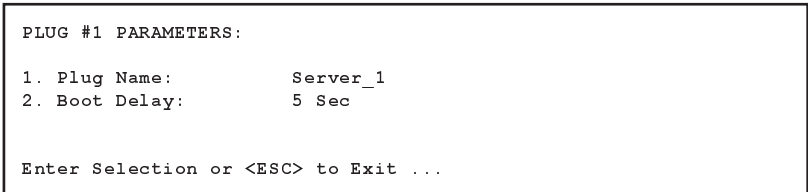

Figure 5.6: Plug Parameters Menu - Text Interface
**Text Interface:** Type `/P n` and then press **[Enter]** (Where `n` is the number or name of the plug you wish to configure.) The Plug Parameters Menu will be displayed as shown in Figure 5.6.